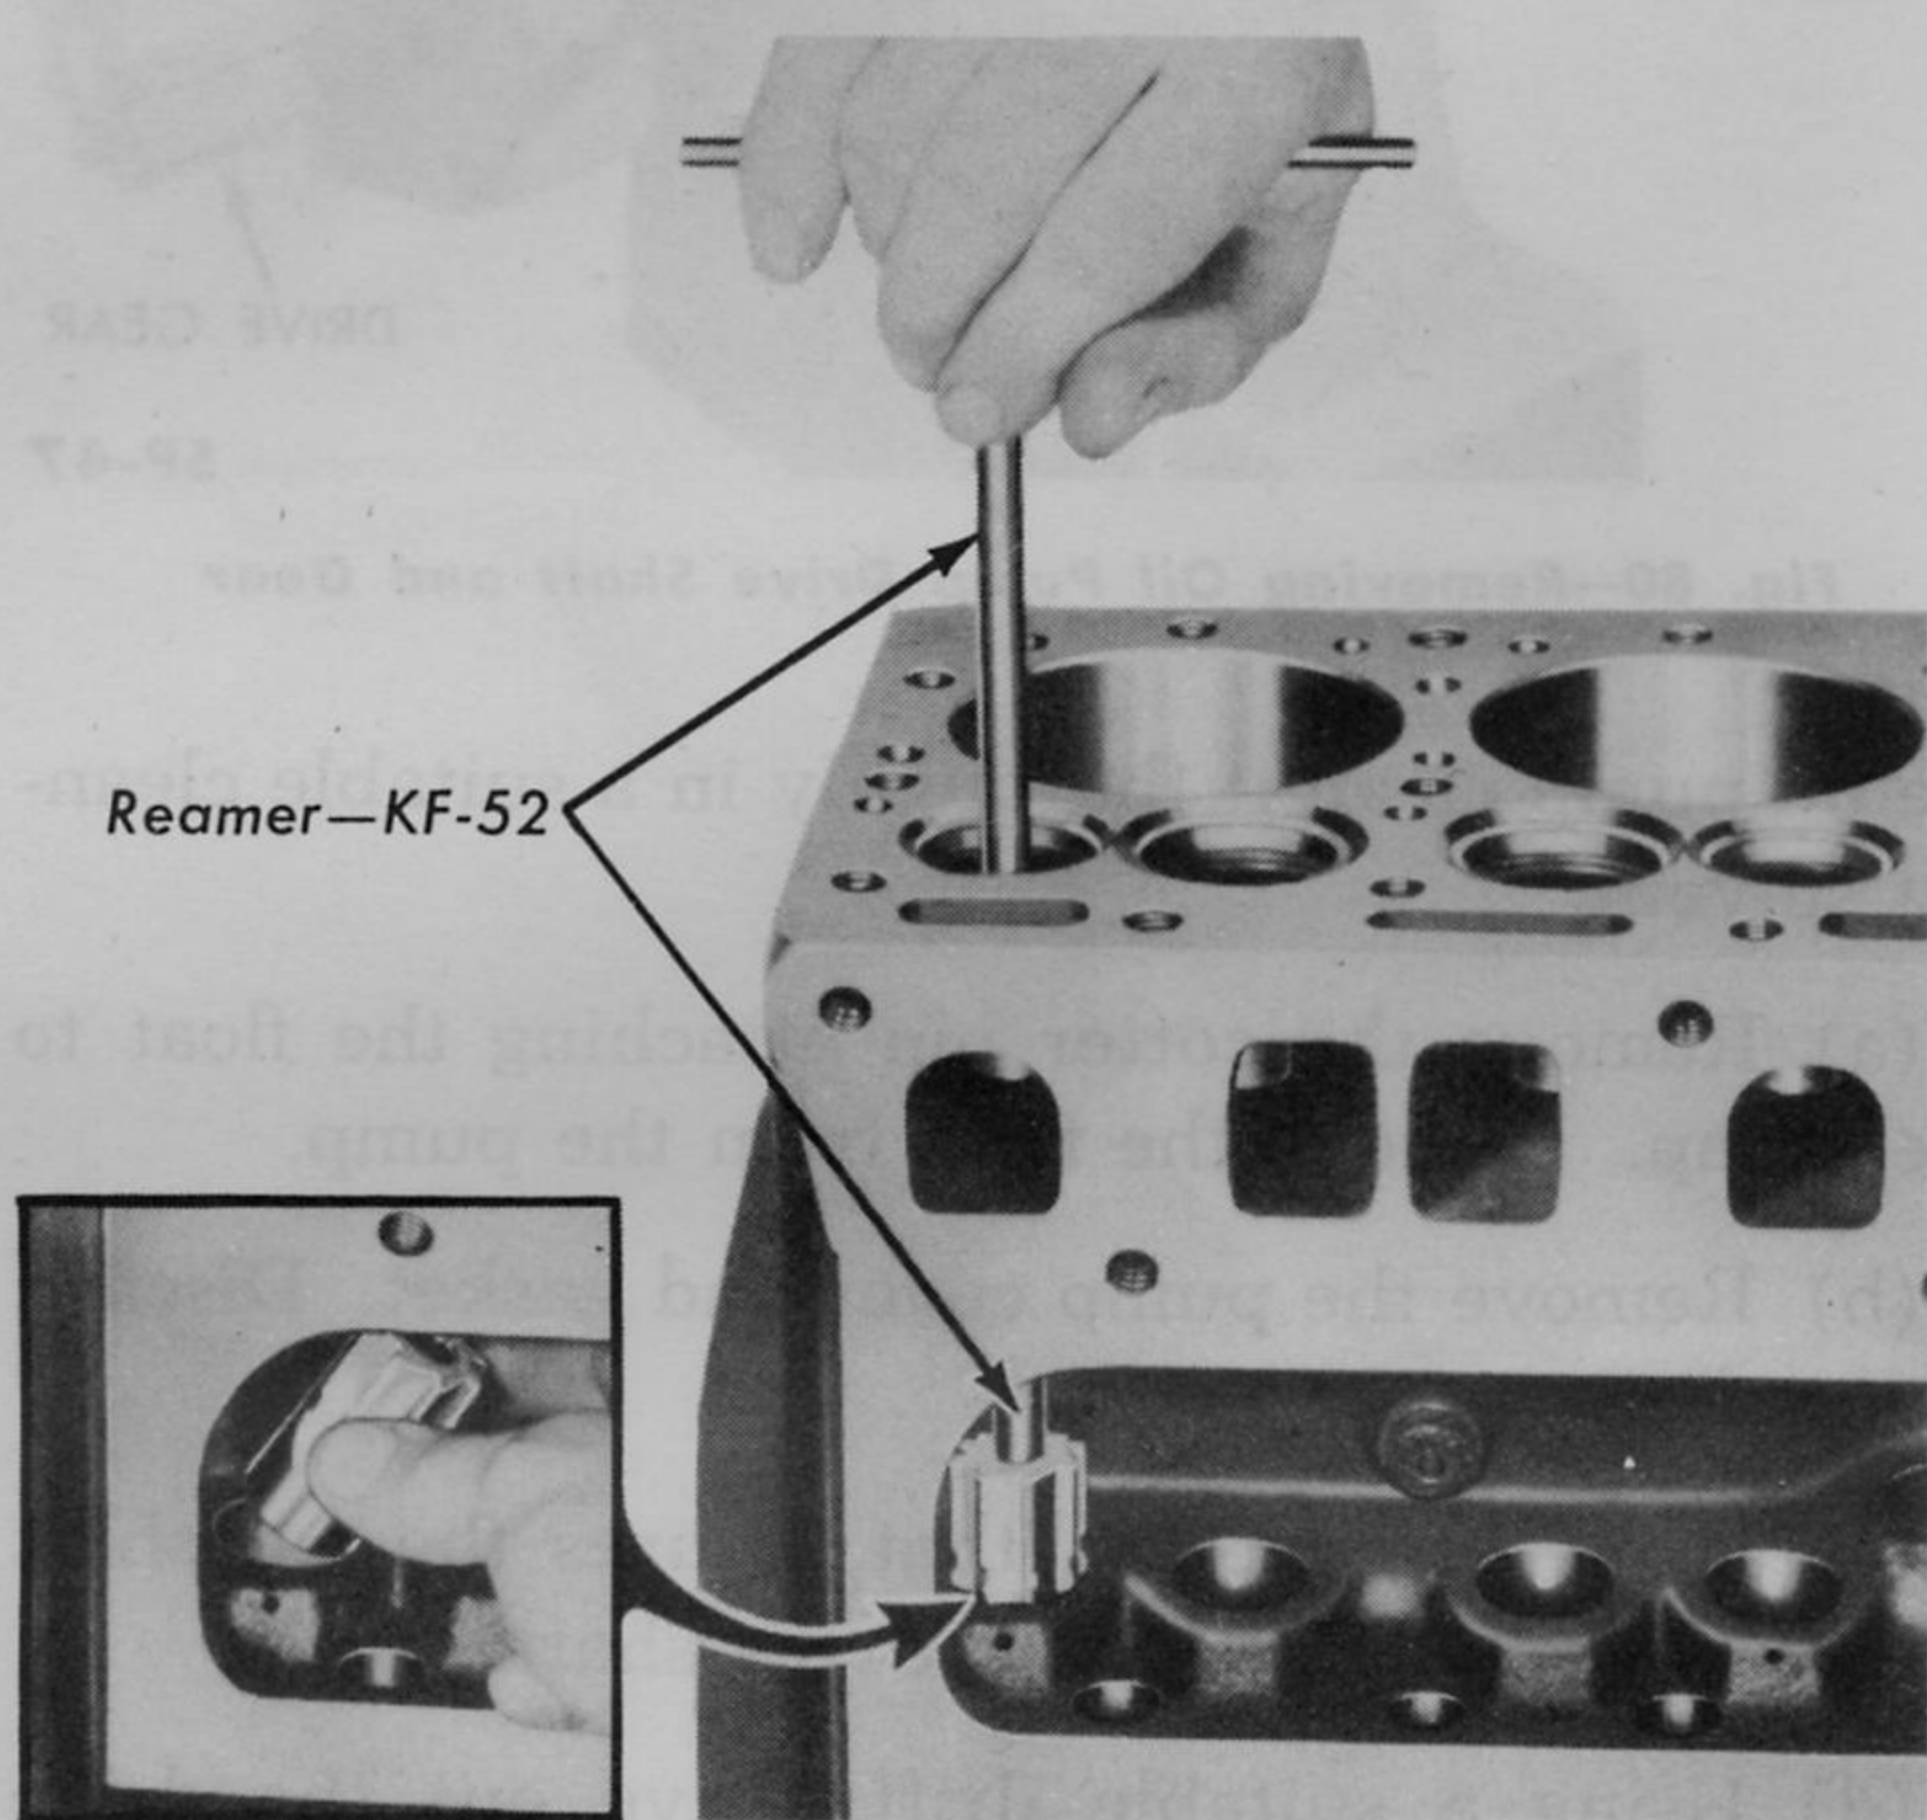

Fig. 76—Reaming Tappet Bores
2. Tappet Inspection and Fitting. Inspect each tappet carefully. Worn, scored or damaged tappets must be replaced. Standard tappet diameter is .6855-.6860 of an inch. Tappets are a selective fit in the tappet bores. Proper tappet fit may be determined by rotating the tappet in the bore; if properly fitted, a slight drag should be evident. If the tappet is loose, selectively fit another standard or an oversize tappet, or use KF-52 reamer set with reamer SP-1266 or 1267 and ream the bores to accommodate the next oversize tappet (Fig. 76).